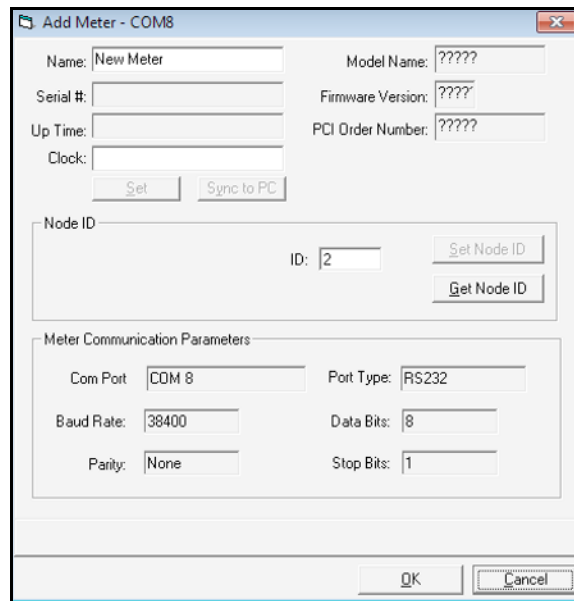

Figure 5: Add Meter Name and Serial Number
- Enter the *Name* and *Serial Number* and click **OK** on the next screen (see *Figure 5* below) to add the PT878 as a new meter. PanaView will automatically upload the required system parameters into its database. The PanaView setup is now complete.